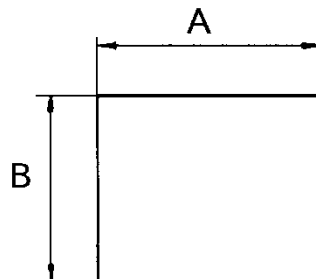

Figure 10. Panel Cutout Size
- (1) Refer to Figure 10 and Table 4, and cut a square cutout in the panel.
- (2) Insert the gas alarm system case through the square cutout. Attach the two top and two bottom (three top and three bottom for 15-point type) optional panel mounting brackets with tension screws. Evenly tighten the tension screws in an "X" pattern to secure the case to the panel.